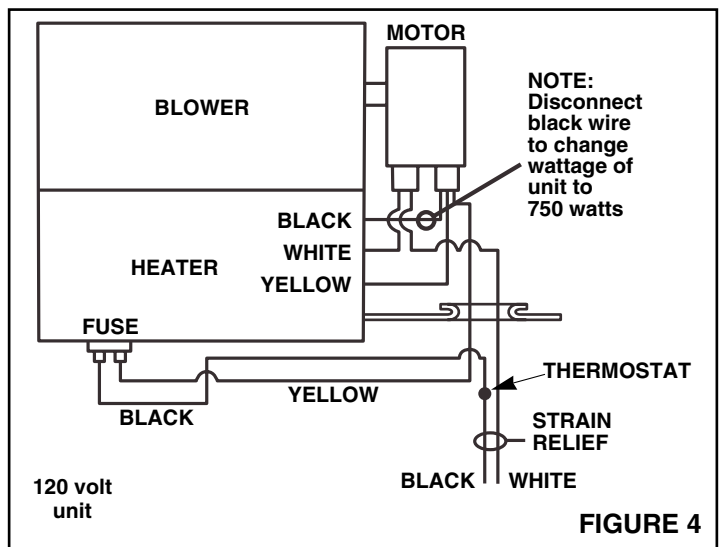

FIGURE 4
NOTE: The heater is wired (shipped from the factory) for 1500 watts. The wattage may be reduced to 750 watts by disconnecting the red wire (on 240 volt unit) or the black wire (on 120 volt unit) as illustrated in Figures 4 and 5.
1. **Refer to Figures 4 and 5.** Reconnect thermostat wire from heater unit. make wiring connections in junction box: black supply wire to black lead from thermostat and white to white or red to red. Connect ground wire to green ground screw in junction box.